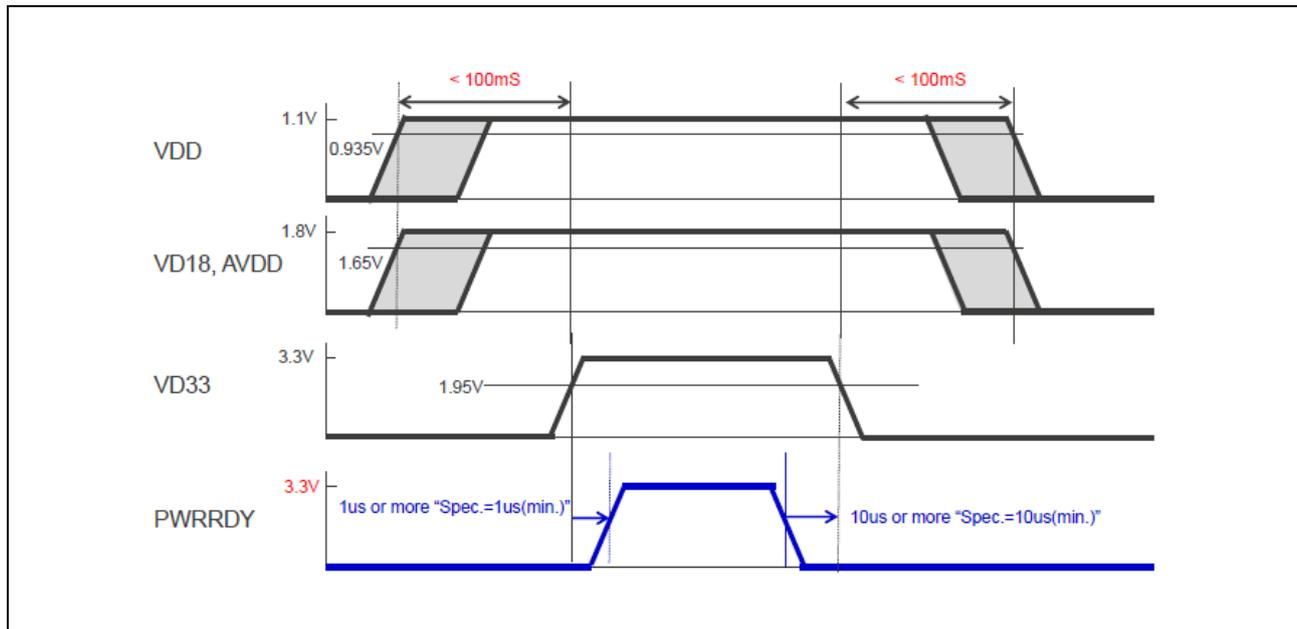

Figure C.2 USB_PWRRDY Timing Chart
6. Control USB_PWRRDY in accordance with the sequence that is shown in **Figure C.2**.